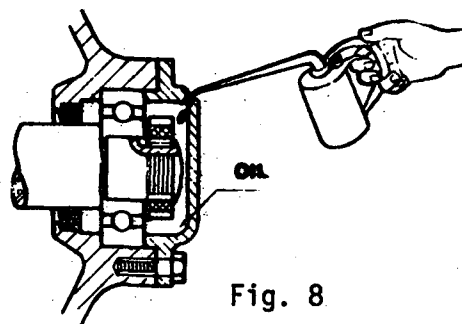

Fig. 8
- b) With oil when there is a lodgement with retainer. This stops the oil from flowing out (Fig. 8).